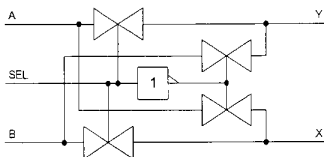

Figure 5
- (b) *Figure 5* shows a circuit constructed from four transmission gates and an inverter. Derive Boolean expressions for the outputs, X and Y, and describe the function of the circuit. [4]
- (c) Design a circuit using only NAND gates and inverters that performs the same function as the circuit of *Figure 5*. [5]